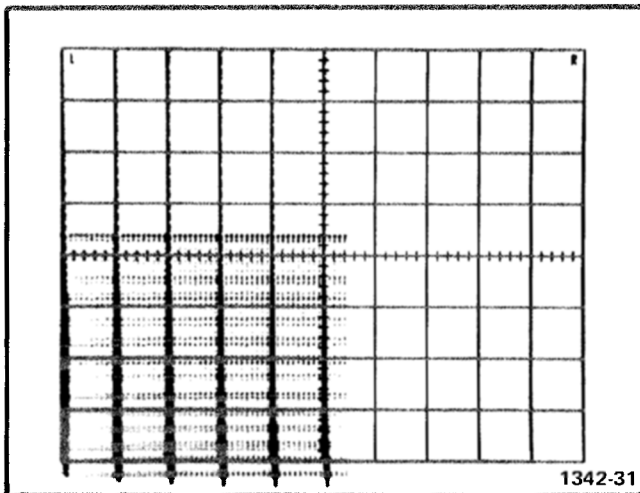

Fig. 4-5. Typical CRT display when checking sweep length.
b. Rotate the MAIN TRIGGERING LEVEL control for a triggered display. Rotate the POSITION control to position the eleventh 1 ms marker at the center vertical graticule line (see Fig. 4-5).
c. CHECK—Crt display for sweep length of 10.4 divisions within 0.3 division, as shown by 0.1 to 0.7 division of display to the right of the center vertical graticule line (see Fig. 4-5).